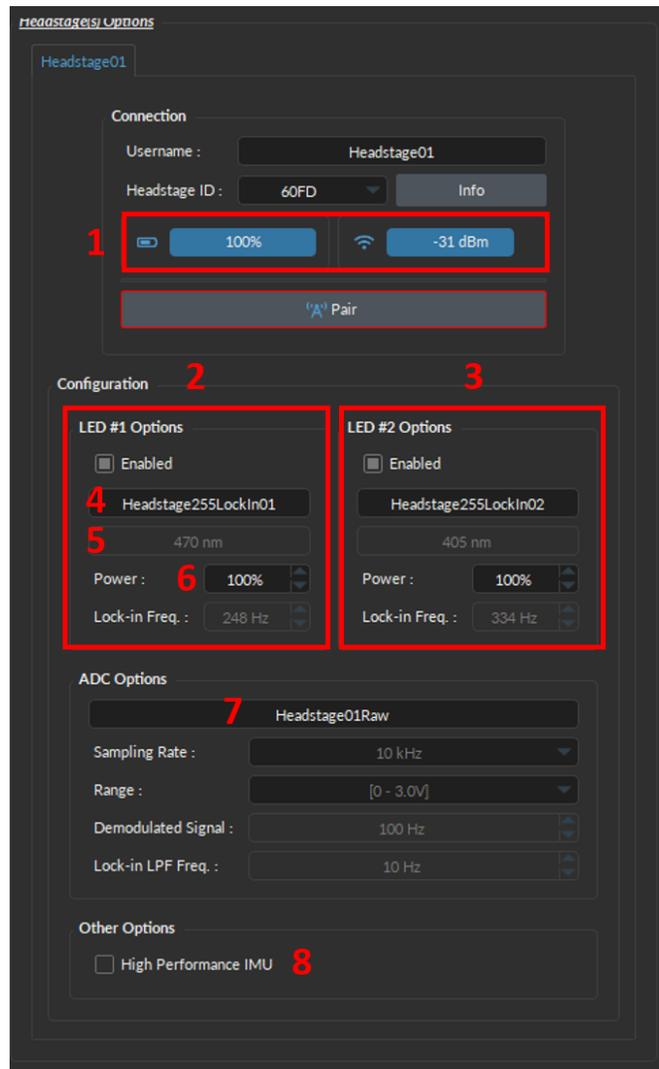

Figure 2.7: Headstage settings
- Once a headstage is selected, the **battery level** and **signal quality** are displayed (Figure 2.7, 1).
6. Once headstage is selected, the LED’s information will be displayed in a dedicated box (Figure 2.7, 2,3). Verify the wavelength of each LED (Figure 2.7, 5), and if desired, change the default Lock-in signal name to something more intuitive (Figure 2.7, 4).
The power percentage is also displayed in each LED box (Figure 2.7, 6). You can select an initial power percentage here; however, you will need to measure the actual power output using a power meter later and adjust the value if necessary. The lower the power of the LED used, the longer the headstage battery will last.
7. Below the LED information, the default name for the raw signal is displayed. This can be modified by the user if desired (Figure 2.7, 7).
8. If you need to record the angular velocity of head movement, you can enable **High Performance IMU** option (Figure 2.7, 8). Acceleration data is always recorded by default. Note that enabling angular velocity recording may slightly increase battery usage.